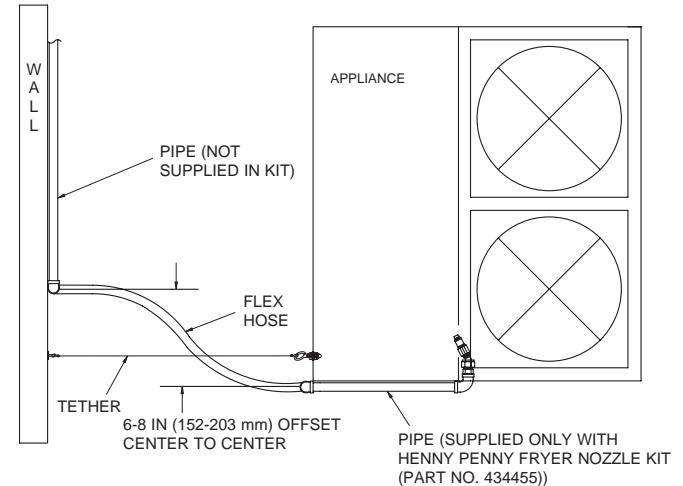

FIGURE 5-9
7. Hose ends are to be offset 6 to 8 in. (152 to 203 mm) center to center of fittings (See Figure 5-9) to maximize hose life expectancy and facilitate appliance movement. With the